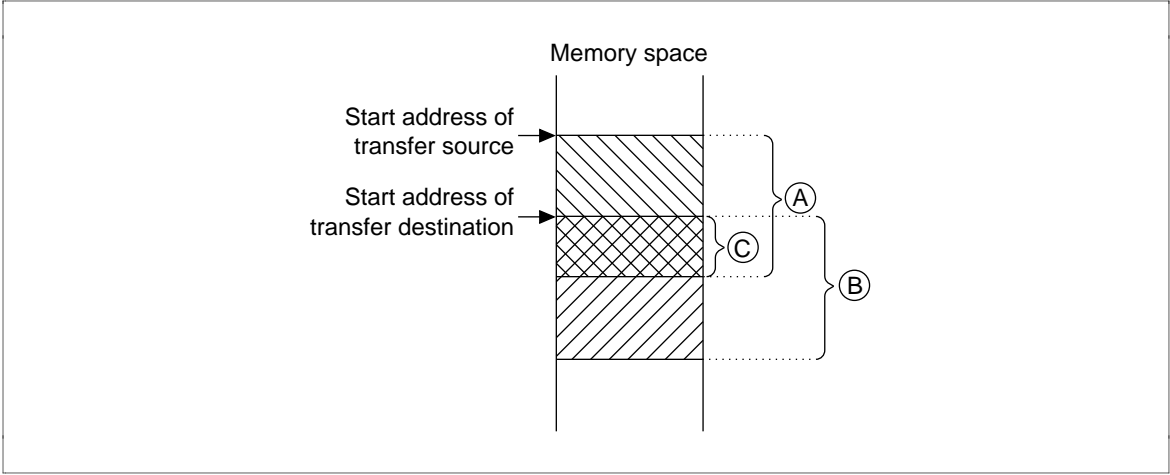

Figure 4.9 Block Transfer with Overlapping Data
- Set the input arguments so that the block data of the transfer source (area (A) of figure 4.9) and the block data of the transfer destination (area (B) of the figure) do not overlap. When the transfer source and transfer destination overlap as shown in figure 4.9, the data of the transfer source that overlaps (area (C) in the figure) is destroyed.